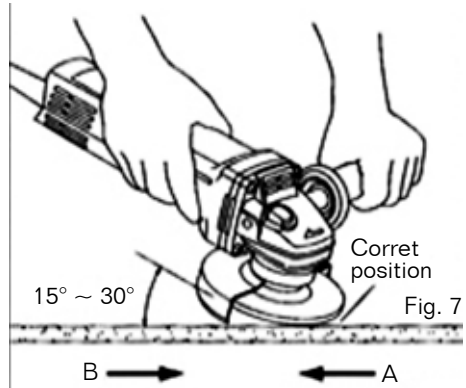

Fig. 7
- c) In order to get good result, the slope between the disc and the working surface should be tilted at the angle of $15^{\circ} \sim 30^{\circ}$. (Fig. 7)